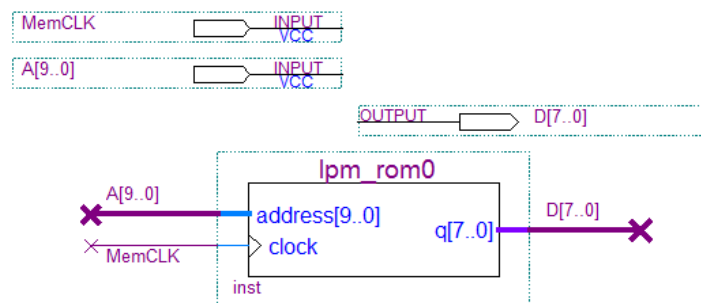

Figure 2: ROM with signals named and defined.
10. Add a bus to the address inputs, address[9..0], and a bus to the data outputs, q[9..0]. Label the address or data bus by drawing it then typing the name. In Figure 2, we have used A[9..0] and D[7..0] as the example names. They must be in the form of “Name[msb..0]” where msb is the most significant bit’s position, starting from zero on the right. You can now use these signals anywhere else in your circuit or as inputs & outputs (as shown in Figure 2).